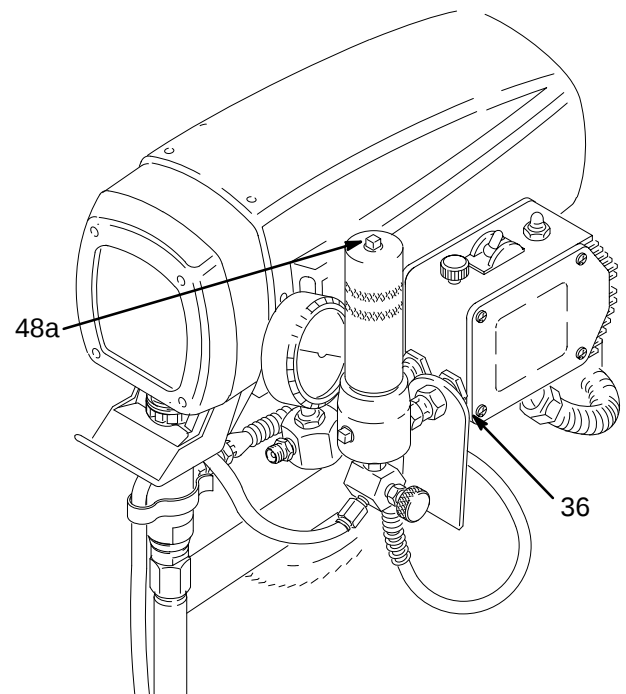

Fig 23
2. See the above list of tools and equipment needed. Remove the plug (48a) from the top of the fluid filter and install the fluid-filled pressure gauge. See Fig 23. Connect the gun to the **new** test hose and connect the hose to the sprayer outlet.
3. Remove the pressure control cover (36).